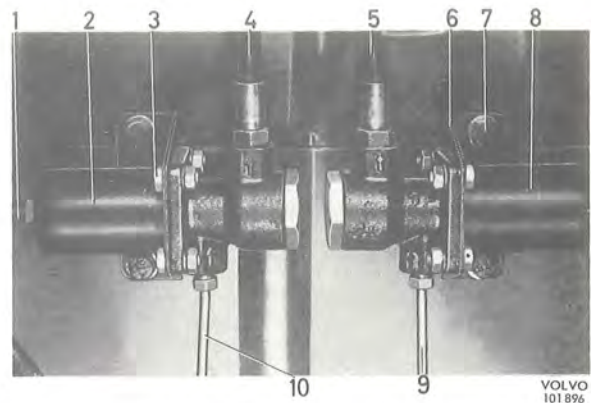

Fig. 5-57. Brake valves fitted
Unscrew and plug the brake pipe connection (10, Fig. 5-57). Slacken the brake hose (4) a max. 1/4 turn at the valve. Remove the attaching screw and unscrew the valve from the brake hose, see Fig. 5-58.